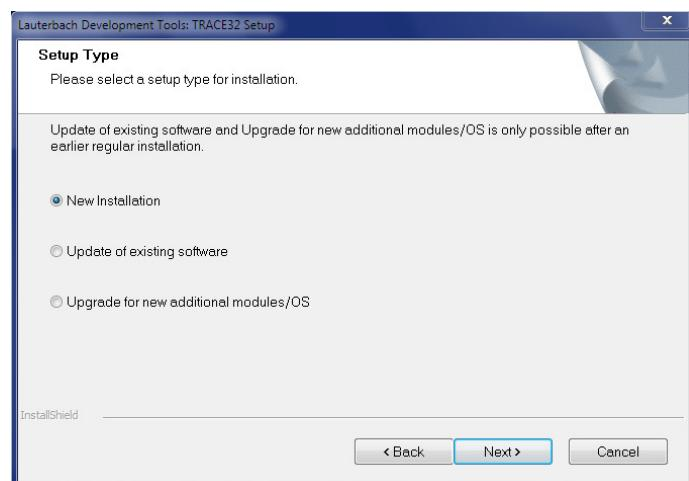

Figure 5.24: **Setup Type** page
4. On the **Setup Type** page, select **New Installation** (see Figure 5.24 on the following page).